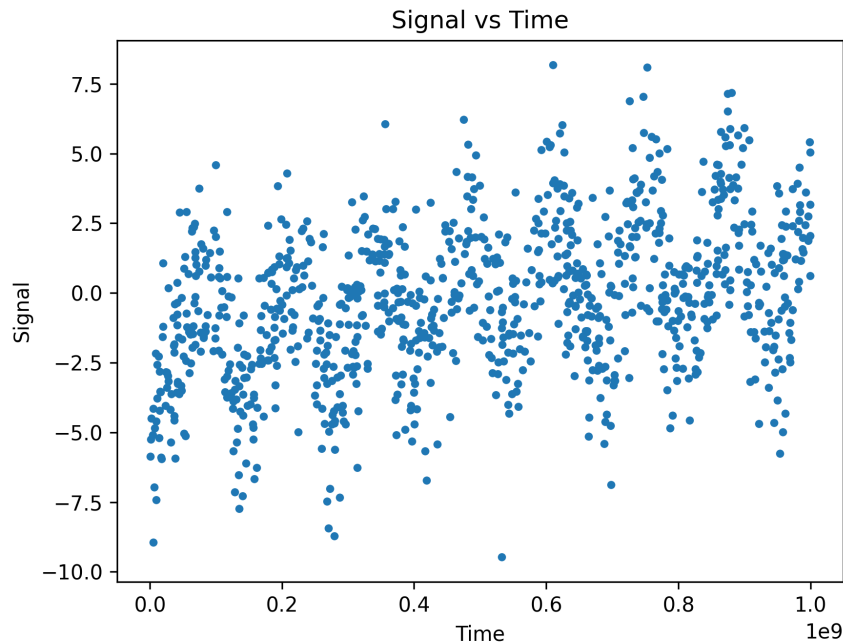

Figure 4: Scatter plot from *signal.dat* data
a) First, I read the data from *signal.dat* file into a NumPy array using NumPy’s `genfromtxt()` function. I then sorted the data based on the time column to help our calculations. This data was then plotted using matplotlib’s `plot` function which can be seen in Figure 4.